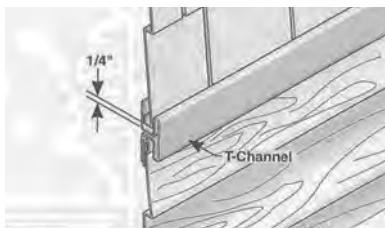

Fig.8
- Field-formed T-Channel (see Figure 8).